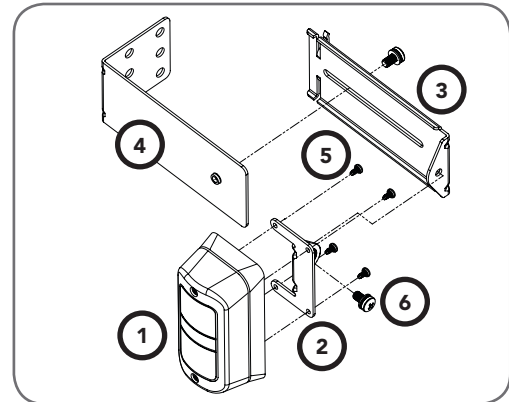
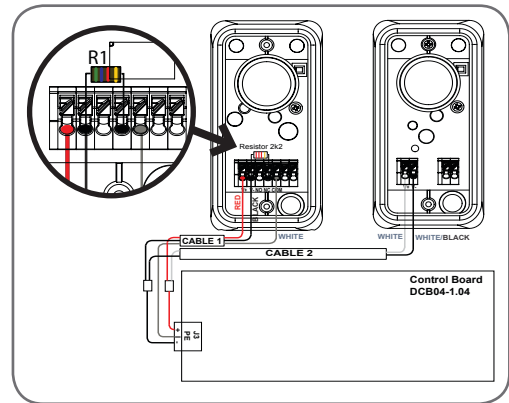
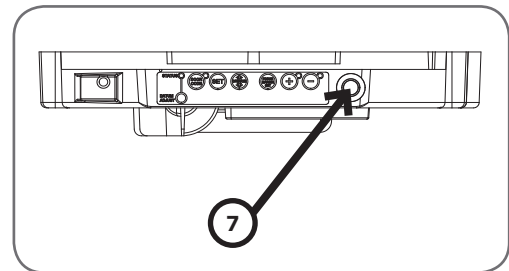
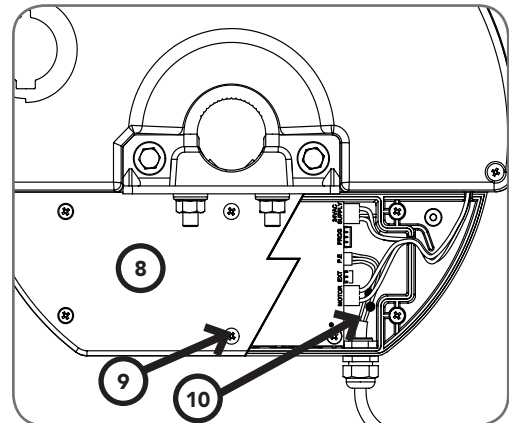

Fig. 6.9
Fig. 6.10
Fig. 6.11
Fig. 6.12
- Attach the mounting bracket (4) to adjustment bracket (3) with the pan head screw (6) (supplied) (Fig 6.9)
- Attach the PE 2000TS Bracket (2) to PE Beam Transmitter (IR200TS-TX) with four taptite screws (M3x5) and attach the other side to adjustment bracket (3) with the pan head screw (6) (supplied).
A resistor 2.2kOhm is required to detect a short in the wiring of the PE Beam Receiver. The supplied resistor is to be used inside the PE Beam Receiver. Install the 2.2kOhm resistor in the PE Beam Receiver between the V- and NC terminals. Refer to the wiring diagram (Fig 6.10). Remove membrane (7) (Fig 6.11). Undo 6 taptite screws (9) M4x 3/8" and open control cover (8) (Fig 6.12). Connect the supplied Harness (10) to the IR2000TS set (3 core cable (Cable1) to Receiver; 2 core cable (Cable2) to Transmitter) from one side and to the J3 of the DCB04 control board from other side.
WARNING: Install the Safety Beams as per diagram in (Fig.6.10). Tampering with the Safety Beams could result in serious personal injury and/or property damage and will void the warranty.
AVERTISSEMENT: Raccordez le faisceau de sécurité conformément au schéma Fig. 6.10. Saboter le faisceau de sécurité présente un risque de blessure corporelle grave et/ou de dommages matériels, et annule la garantie.